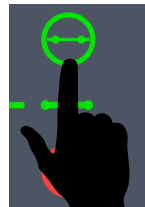

Figure 141. Close Contactor Button
3. Once the Forced Purge operation has completed, press the **Close Contactor button** (Figure 141) on the controller.